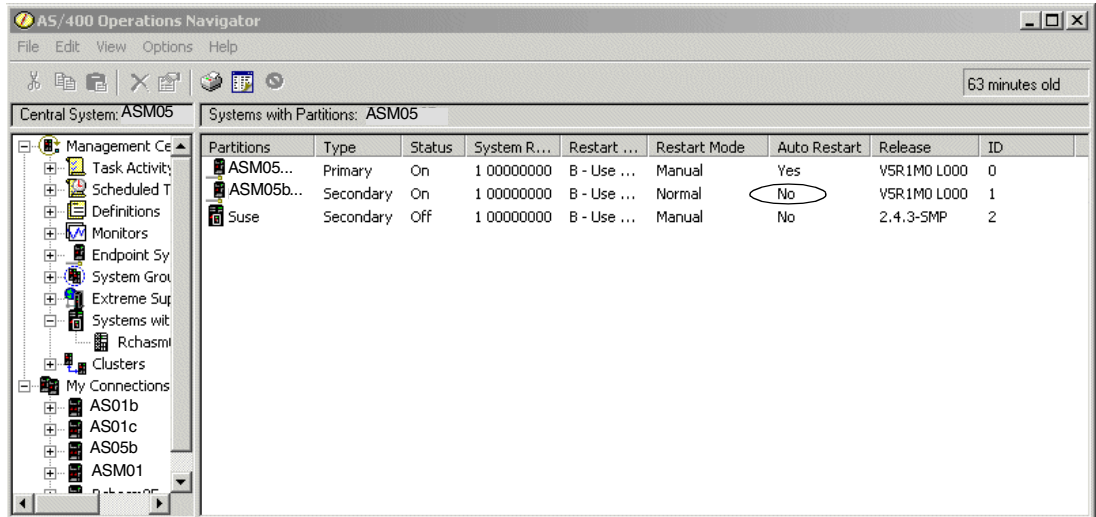

Figure 6-38 Auto Restart status
- e. Select the **Options** tab (Figure 6-38).
Figure 6-38 shows the Auto Restart status set to “No”.